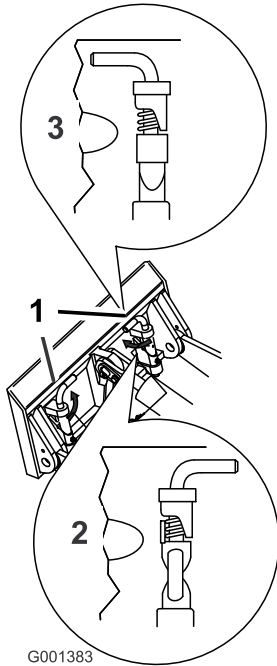

Figure 6
7. Engage the quick-attach pins, ensuring that they are fully seated in the mount plate (Figure 6).